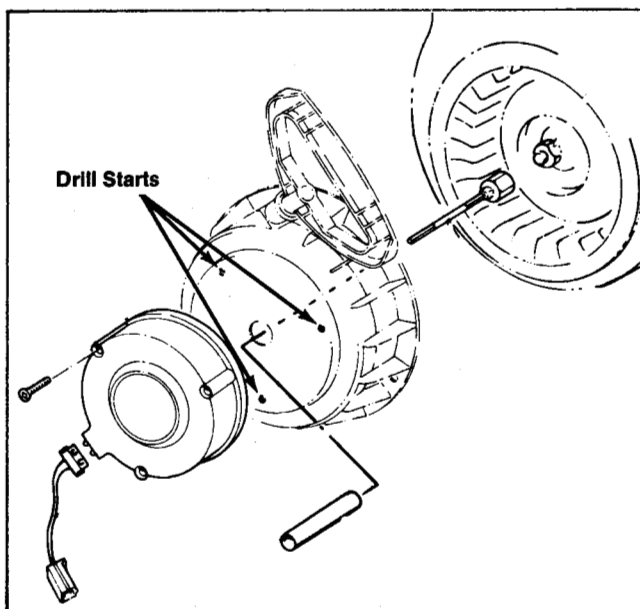

Figure 130
4. Locate the depressed drill starts (three) in the front side of housing. See Figure 130.